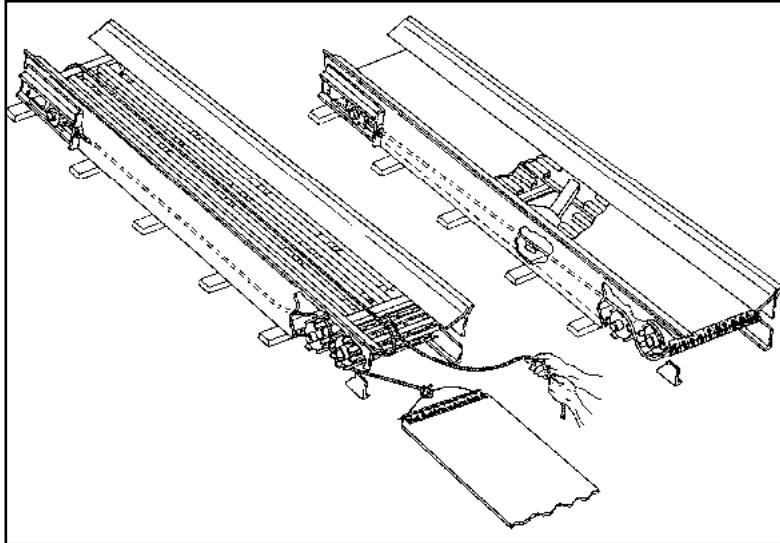

Figure 9 – #5 Belt Installation
12. Shut off all power and insert lumber under belt to support its weight as shown in Figure 9.